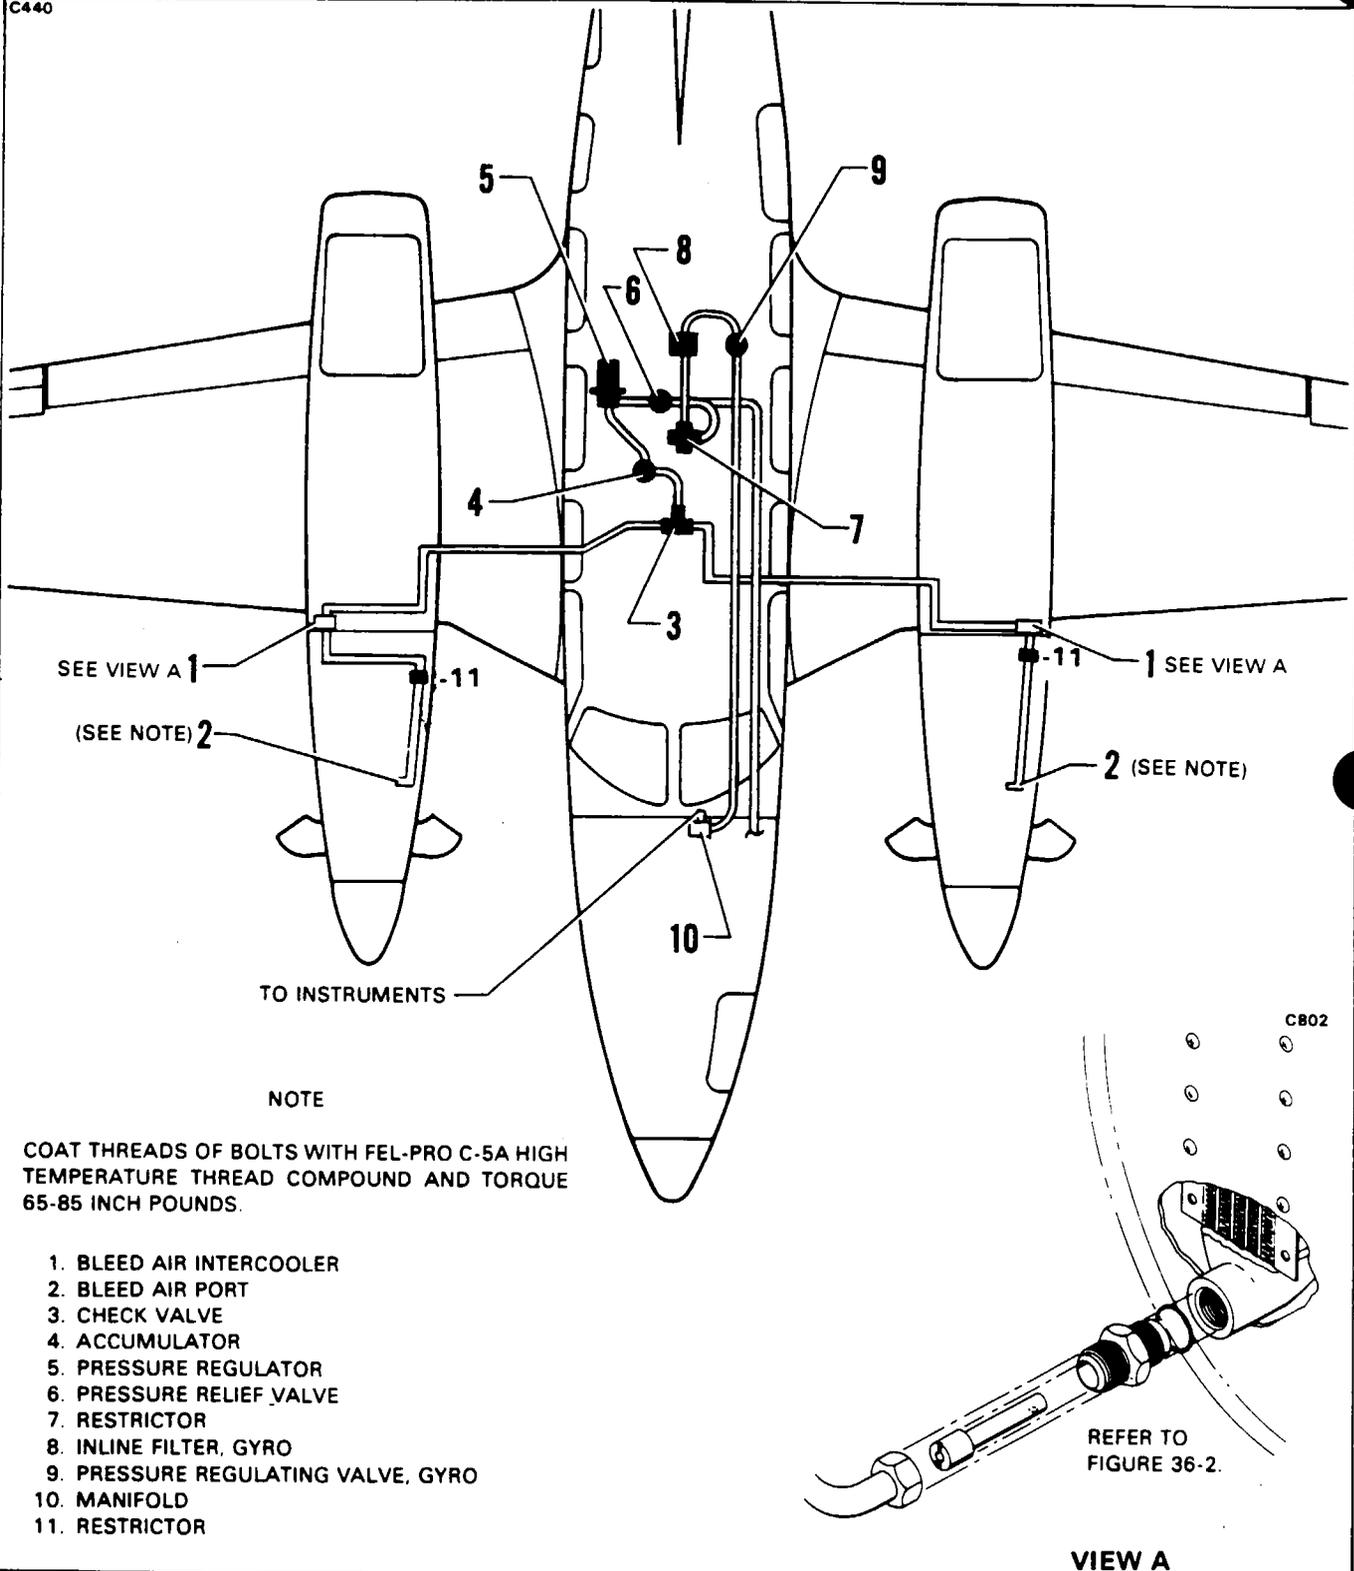

Figure 36-1. Pneumatic System
**COMPONENTS.** (Refer to Figure 36-1.)
**PRESSURE REGULATOR.** (Refer to Figure 36-1.)